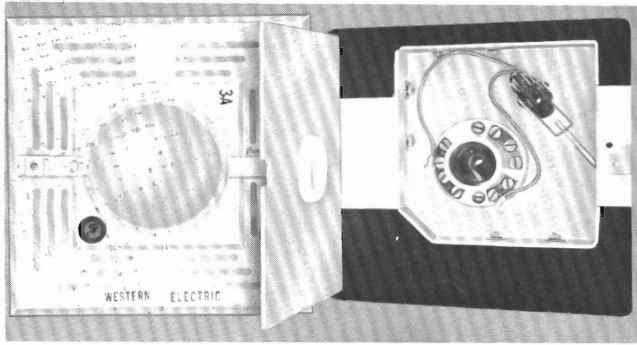

Fig. 5 — 3-type Light Fixture
6.05 The 3-type light fixture, used in 5-, 6-, and 9-type booths, has a white lens mounted in a flush-type metal plate with ventilating slots. The fixture has an outlet box containing a lamp receptacle and a light switch enclosed by a hinged cover. Also, it has a vertical and a horizontal rod for operating the light switch from the booth door (Fig. 5).